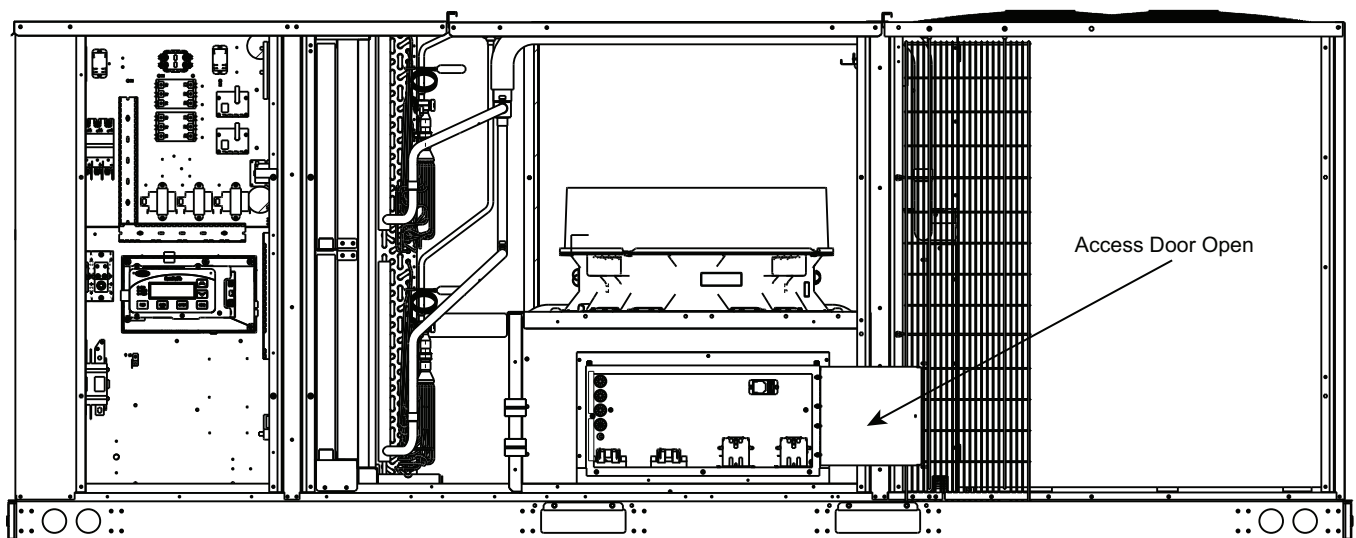

Fig. 50 — Electric Heater Accessory In Place (Shown with Access Door Opened)
5. Slide heaters until completely installed such that heater controls are completely in the unit. Using screws saved from Step 3, secure heater assembly. (See Fig. 50.)